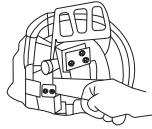

Fig. 34
3. Hold the guide bar tip up and rotate the chain-tensioning screw (Fig. 34) clockwise with a standard screwdriver to tension the chain. The desired tension depends on the temperature of the chain: